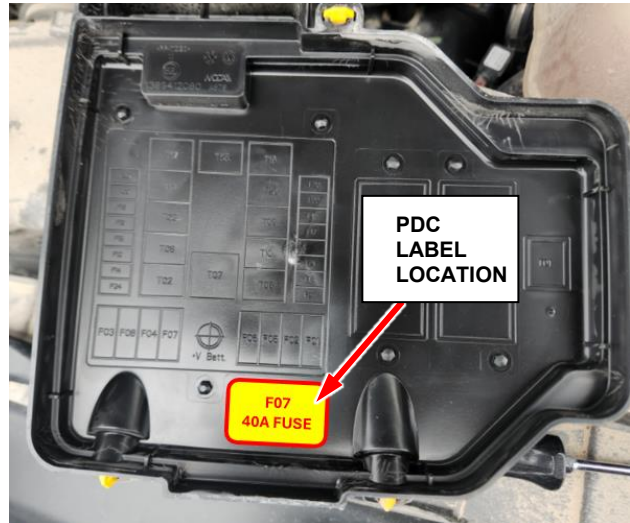

Figure 7 – PDC Label Location
1. Using isopropyl alcohol and a clean cloth, clean the area where the PDC label will be applied. Allow the alcohol to evaporate before applying the label (Figure 7).
3. Apply the PDC label in the position shown in Figure 7.